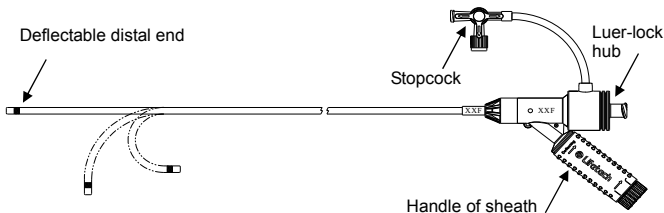
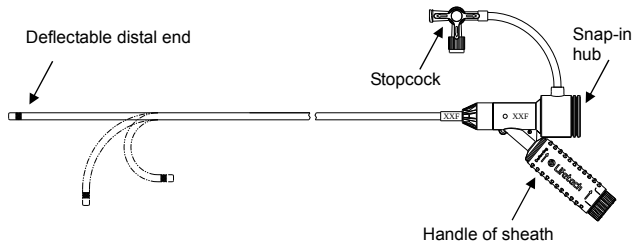

Fig.1 Steerable introducer(800 series)
Fig.2 Steerable introducer(550/700/900 series)
- 1) Deflectable sheath (Fig.1 & Fig.2)